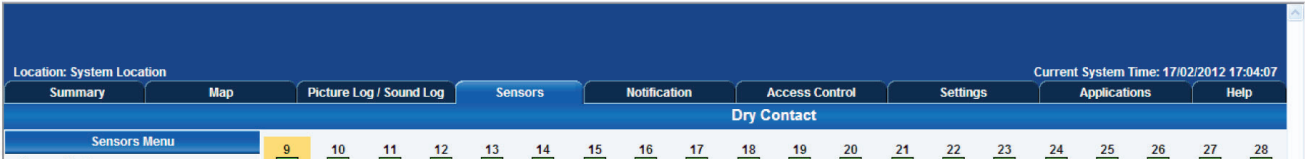

Figure 3-28. Intelligent sensor Port 1.
- 1. Plug the sensor into one of the RJ-45 “intelligent sensor ports” on the ServSensor’s rear panel. In this example, we will use Port 1. See Figure 3-28.